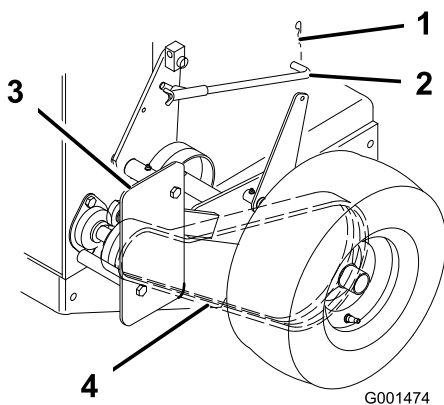

Figure 36
1. Remove hairpin cotter securing brake rod to brake arm to relax belt idler tension (Figure 36).
2. Remove bottom and loosen top bolts of shield to rotate for belt clearance (Figure 36).
3. Lift the belt past idler and off the drive pulley (Figure 36).
6. Secure shield with previously removed bolt and tighten bolts (Figure 36).
7. Secure brake rod to brake arm with hairpin cotter (Figure 36).